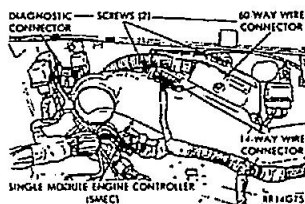

Fig 1a
3. Remove 2 module mounting screws, (3 mounting screws on full size pickup) - (Fig 1a, b, c).
4. Remove 14 and 60 way wiring connectors from the SMEC and remove SMEC (Fig 1a, b, c)